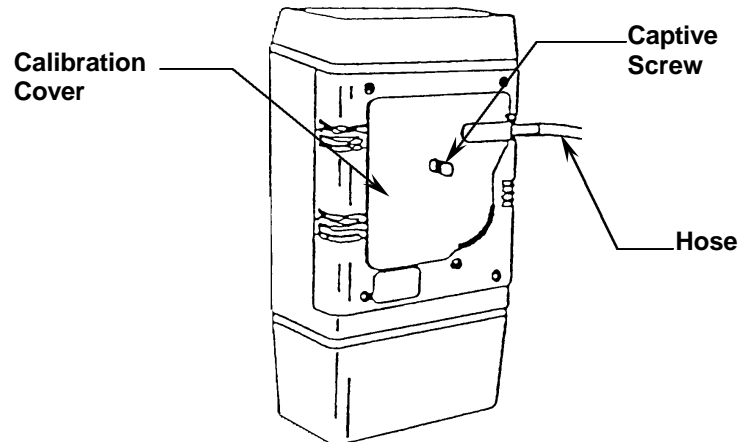

Figure 2-2: Attachments for Remote Sampling
- Release the instrument battery pack captive screw. See Figure 2-2.